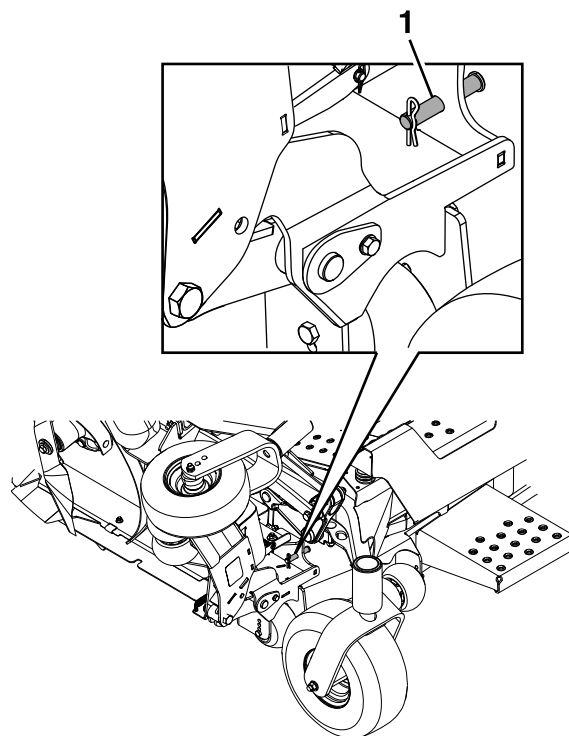

Figure 18
1. Remove the clevis pin and hairpin cotter that secures each wing in the upright position and place them in the storage position (Figure 18).